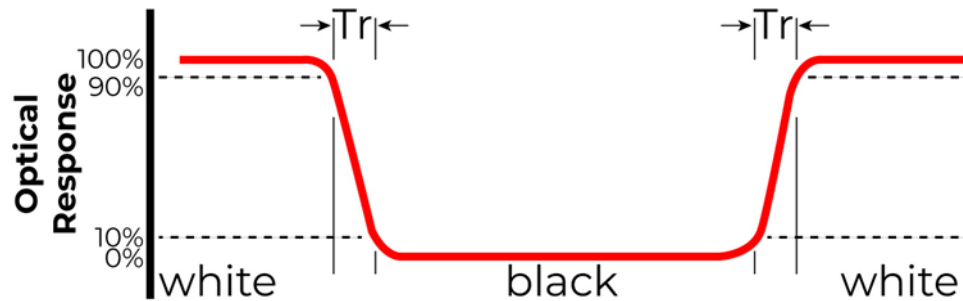

Figure 2. The definition of response time
**Note 4.** Response time is the time required for the display to transition from white to black (Rise Time, Tr) and from black to white (Decay Time, Tf). For additional information see Figure 2. The test equipment is BM-7A.